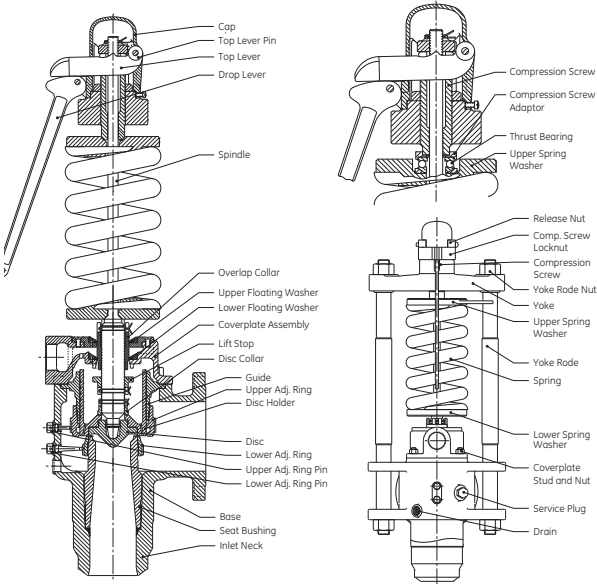

Figure 37: Domestic Plugs
Refer to Figure 37 on Section XVIII.B. Remove top lever pin and top lever then loosen the cap screw. Remove cap and drop lever as an assembly. The release nut is fixed to the spindle by means of a cotter pin. Note that the release nut does not quite engage top of compression screw.
3. Always be certain that all parts are clean and free of dirt and foreign material. Dirt trapped on seating surfaces or in the inlet, when the valve is reassembled, will damage the seats. Reassemble the valve as outlined in Section XV of this manual. The lug on the top spring washer should be on the left side of the valve when facing in the same direction as the outlet. (See Figure 37.)
5. Remove the top lever from the cap, and reassemble in position in accordance with Figure 37. If properly positioned, the top lever should have .125" (3.175 mm) of vertical movement prior to engaging bottom surface of release nut. The valve is now ready for the initial field test, on steam, to check valve set point and blowdown.
3. Remove the seal peel preservative from the disc and thoroughly clean the disc seat with a clean cloth. Then, lap the disc and bushing seat. Lubricate the spindle tip with "Anti-Seize", and assemble the disc and disc holder to spindle by turning the disc clockwise until the dropout thread disengages. Reassemble the valve as outlined in Section XVII of this manual. The lugs on the top spring washer should be on the left side of the valve when facing in the same direction as the outlet (See Figure 37).